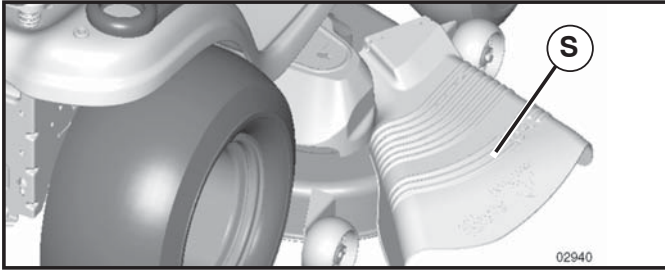

FIG. 10
CAUTION: Do not operate the mower without either the entire grass catcher, on mowers so equipped, or the deflector shield (S) in place. (See FIG. 10)